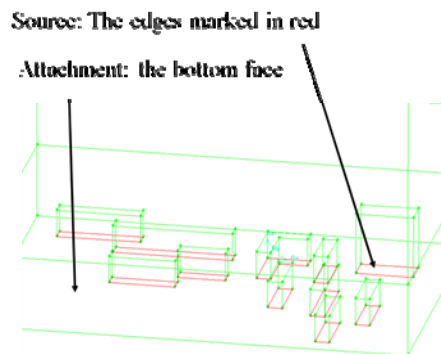

Fig. 31 Size function with the bottom face as attachment and the edges marked in red as source.
① Click pad 'Tools'
② Click pad 'Size function'
③ Create a size function
④ Select edges marked in red as source; select the bottom face of the small domain as attachment, see Fig.31.